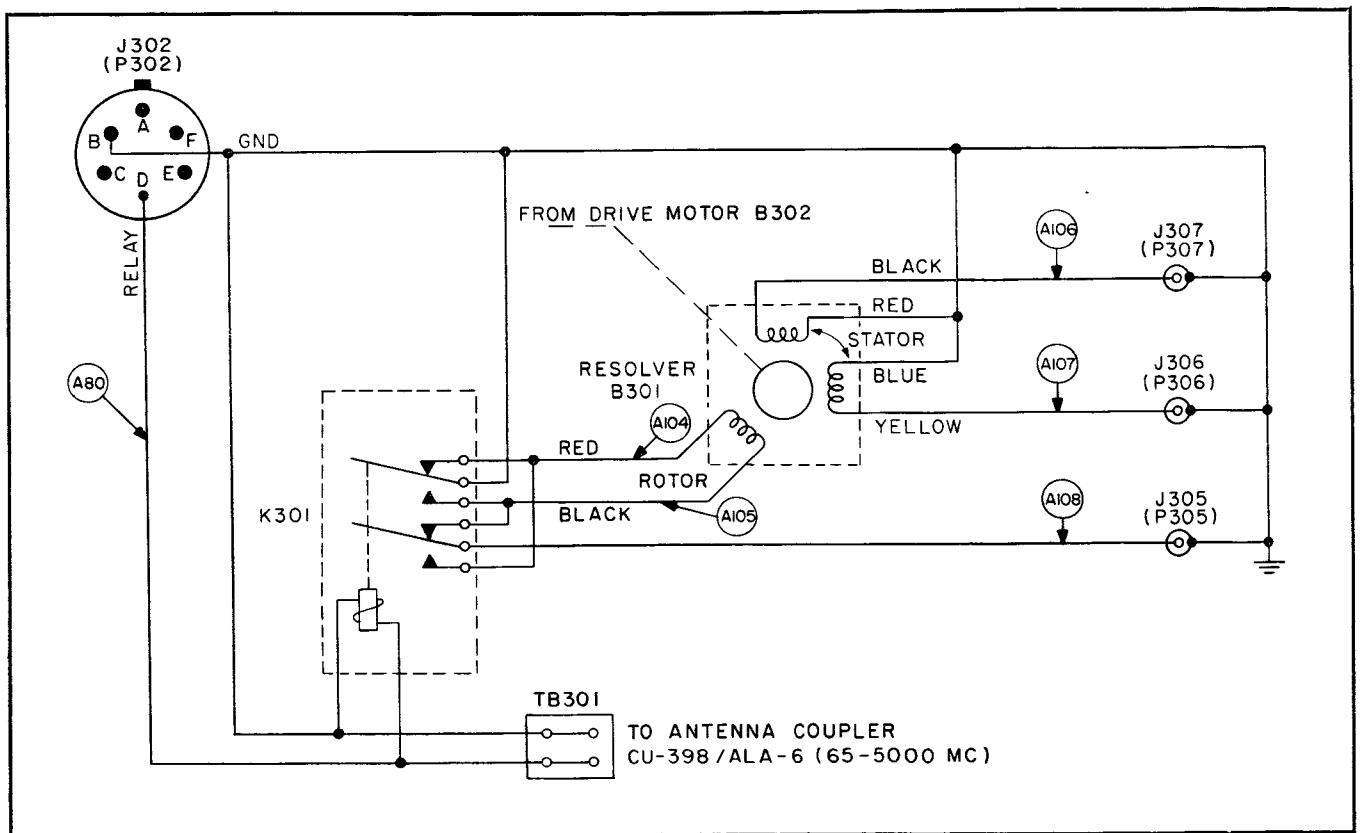

Figure 4-20. Antenna Drive Partial Schematic, Resolver Circuitry
- b. Resolver circuitry (Figure 4-20).
4-107. RESOLVER CIRCUITRY. (Figure 4-20.)